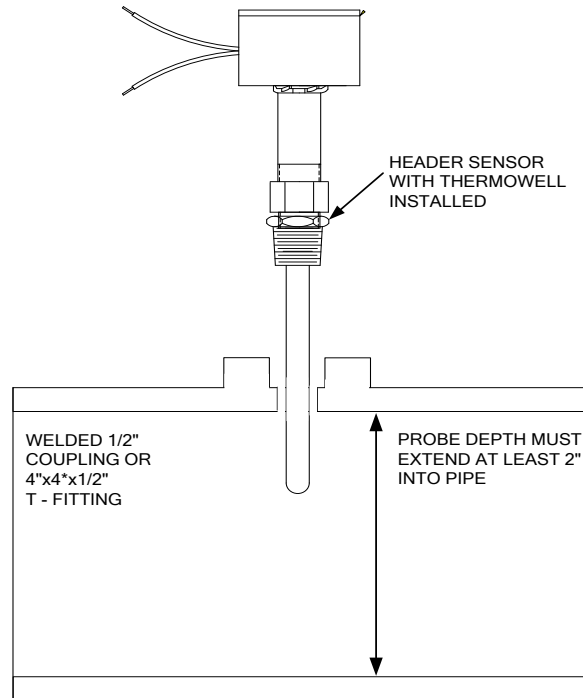

Figure 2-3: Header Sensor Installation Details
1. Refer to Figure 2-3 for the Header Sensor installation details.
As mentioned in paragraph 2.5, the Return Sensor is identical to the Header Sensor. Therefore, if a Return Sensor is being installed, another Header Sensor Kit (P/N 122790) is required. The Return Sensor should be installed in the boiler water return line within 3 feet of the first boiler in the boiler plant's return water line. The installation details shown in Figure 2-3 for the Header Sensor also apply to the Return Sensor. If used, install the Return Sensor as shown below:
1. Refer to Figure 2-3 and install the Return Sensor and Thermowell into the 1/2 inch tapped coupling or Tee fitting using heat conductive grease.